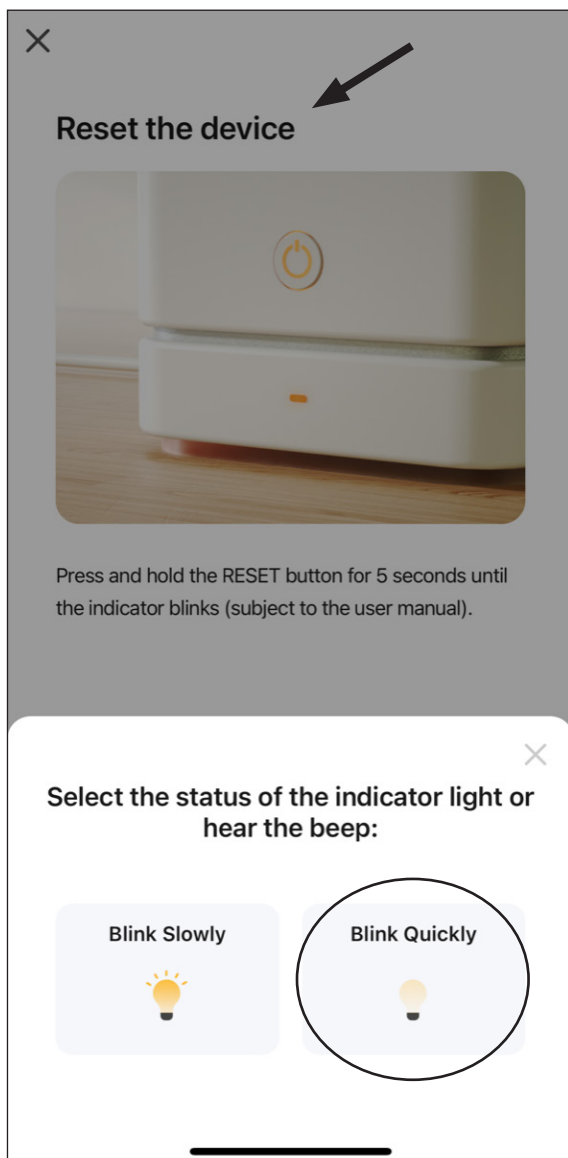
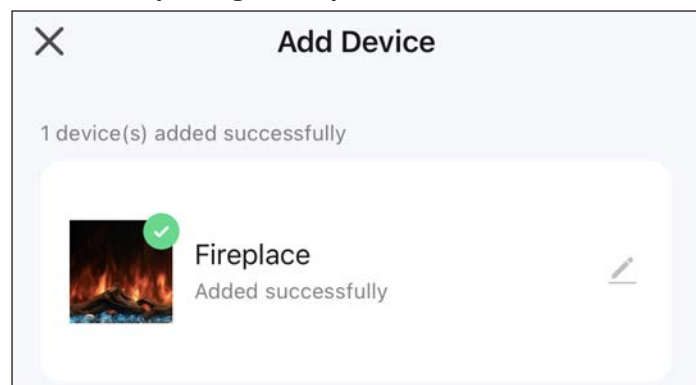

Figure 21: Fireplace Pairing
Figure 22: Fireplace Successfully Paired
7. With the fireplace now in pairing mode select the **Blink Quickly** option on the **Reset the Device** screen in the app (see figure 21). The app will begin pairing to the fireplace on a timing screen and automatically finish once pairing is successful (see figure 22).